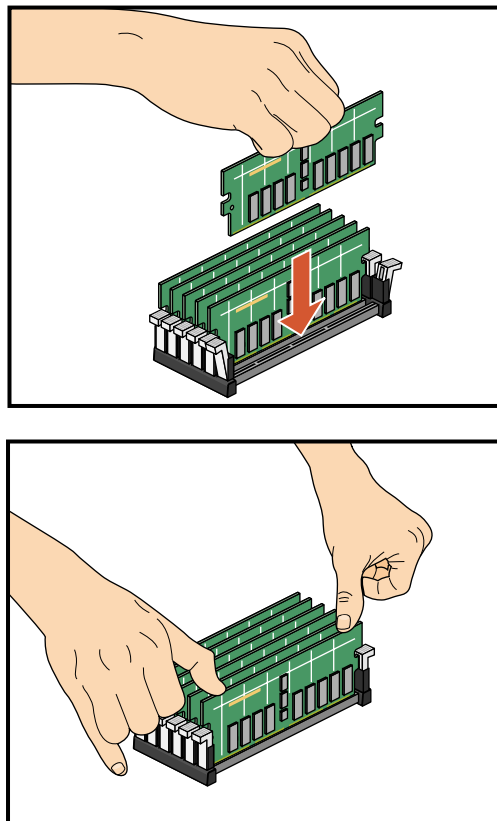

Figure 3-31 Inserting a DIMM
6. Install the DIMMs, as follows (see Figure 3-31):
- e. When the DIMM is fully seated in the connector, the ejector latches snap into place flush with each end of the DIMM, see Figure 3-31.